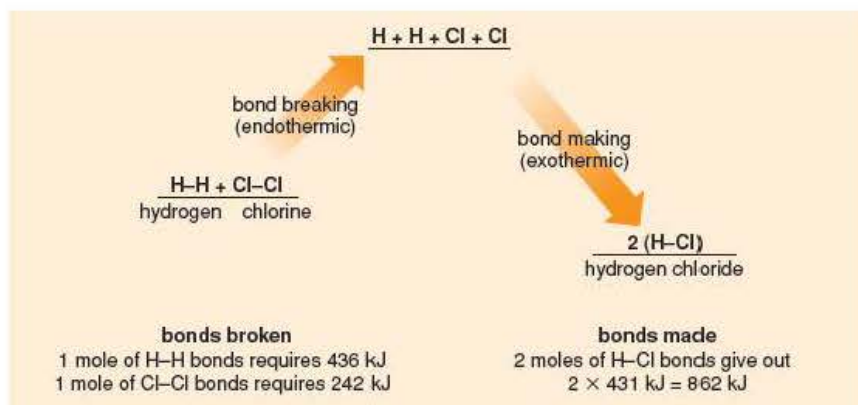

Figure 8.2 Bond breaking and bond making when hydrogen and chlorine react.
Figure 8.2 shows the bond breaking and bond making that takes place when hydrogen reacts with chlorine to form hydrogen chloride. The bonds
We can use the bond energies in Table 1 to work out the energy changes involved in the reaction shown in Figure 8.2.
From Figure 8.2:
- Draw a bond-breaking and bond-making diagram for the reaction similar to that in Figure 8.2.